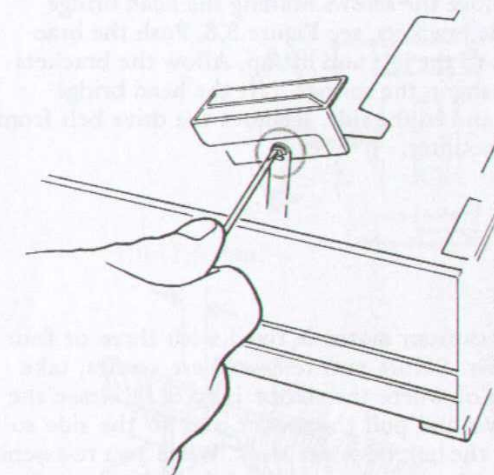

Fig. 3.5 Removing the circlip on the locking arm
2. Remove the circlip on the locking arm, see Figure 3.5.